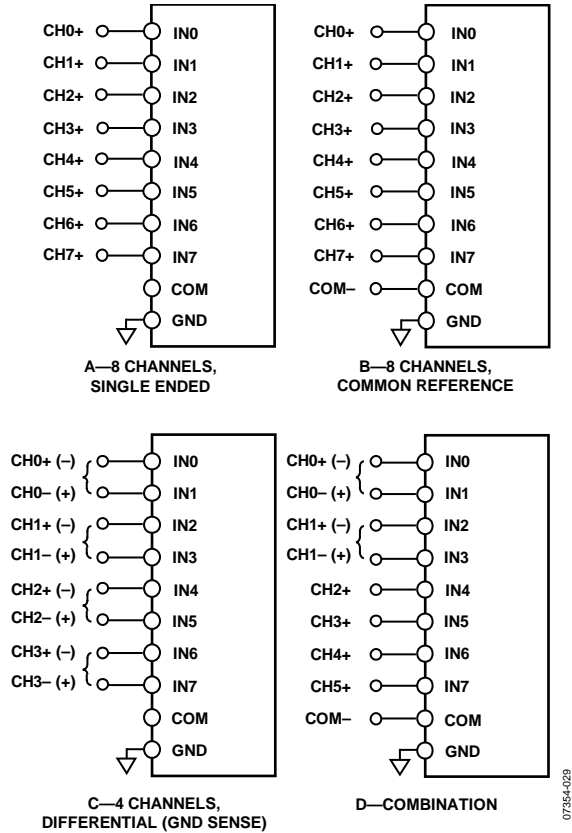

Figure 33. Multiplexed Analog Input Configurations
Figure 33 shows the different methods for configuring the analog inputs with the configuration register (CFG[12:10]). Refer to the Configuration Register, CFG section for more details.
- Configuration A in Figure 33: single-ended referenced to system ground; $CFG[12:10] = 111_2$.
- Configuration B in Figure 33: bipolar differential with a common reference point; $COM = V_{REF}/2$; $CFG[12:10] = 010_2$. Unipolar differential with COM connected to a ground sense; $CFG[12:10] = 110_2$.
- Configuration C in Figure 33: bipolar differential pairs with IN_x- referenced to $V_{REF}/2$; $CFG[12:10] = 00X_2$. Unipolar differential pairs with IN_x- referenced to a ground sense; $CFG[12:10] = 10X_2$. In this configuration, the IN_x+ is identified by the channel in $CFG[9:7]$. For example, for $IN_0 = IN_{1+}$ and $IN_1 = IN_{1-}$, $CFG[9:7] = 000_2$; for $IN_1 = IN_{1+}$ and $IN_0 = IN_{1-}$, $CFG[9:7] = 001_2$.
- Configuration D in Figure 33: inputs configured in any of the above combinations (showing that the AD7699 can be configured dynamically).